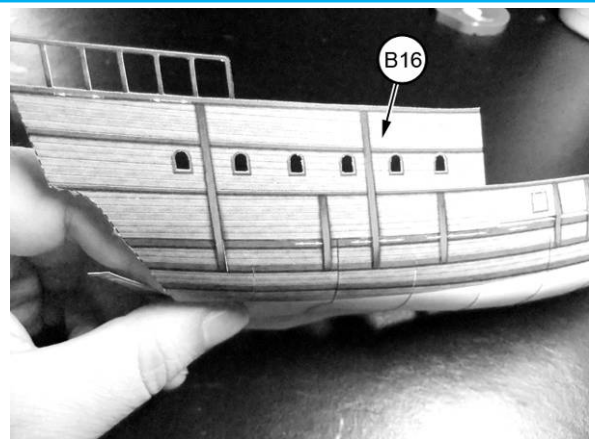

Figure 1
12. Glue piece B16 (upper hull) to the top portion of the lower hull (Figure 1). DO NOT GLUE the five foldable tabs (Figure 2).